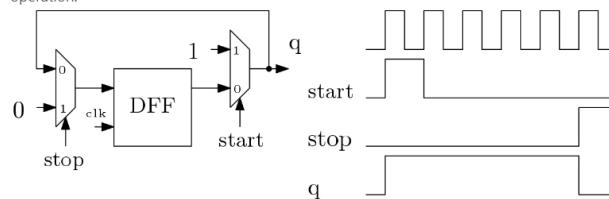

Fig. 11: Phase Generation ( PG ) Block
**A. Phase Generation (PG) Block:** The PG block is shown in Fig. 11. The output phase ( $q$ ) is generated when a *start* pulse is given and  $q$  is deactivated when a *stop* pulse is asserted. This block can be generated in other way but we have shown a simpler way to realize this operation.